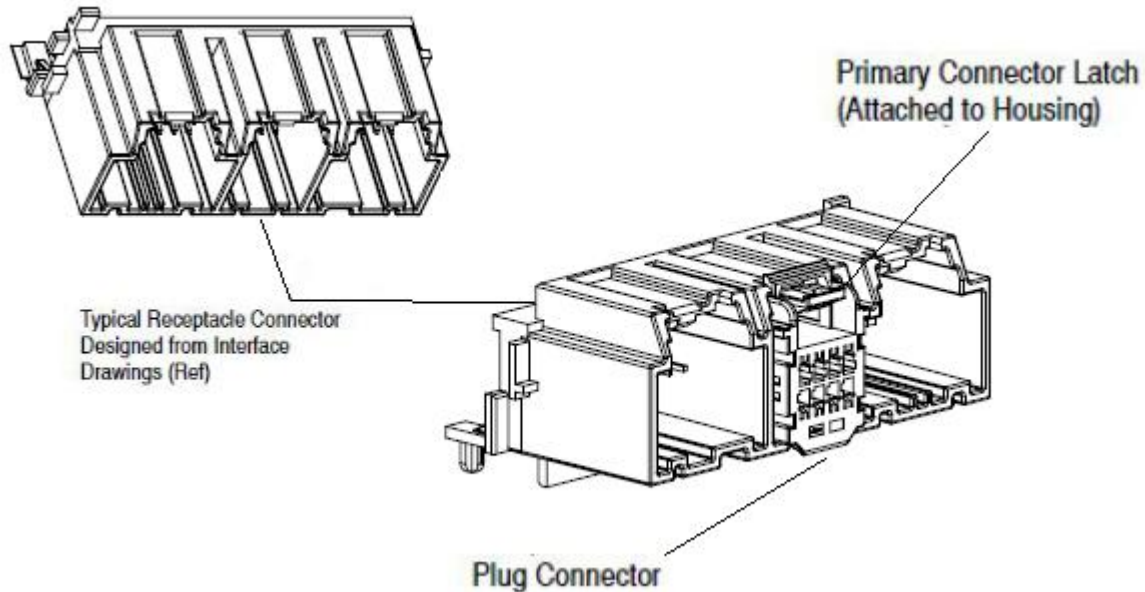

Fig 14.
- (1) Connectors are mated and the primary connector latch is mated with an audible and tactile “click” and engages. Refer to Fig 14.